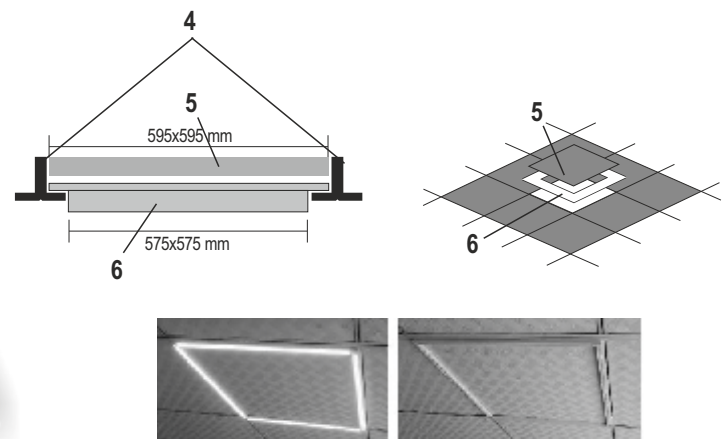

figure 2 • 2. ábra • 2. obraz • figura 2. • 2. skica • 2. skica • 2. obrázek • rys. 2.
- Remove the ceiling panel according to **Figure 2**.